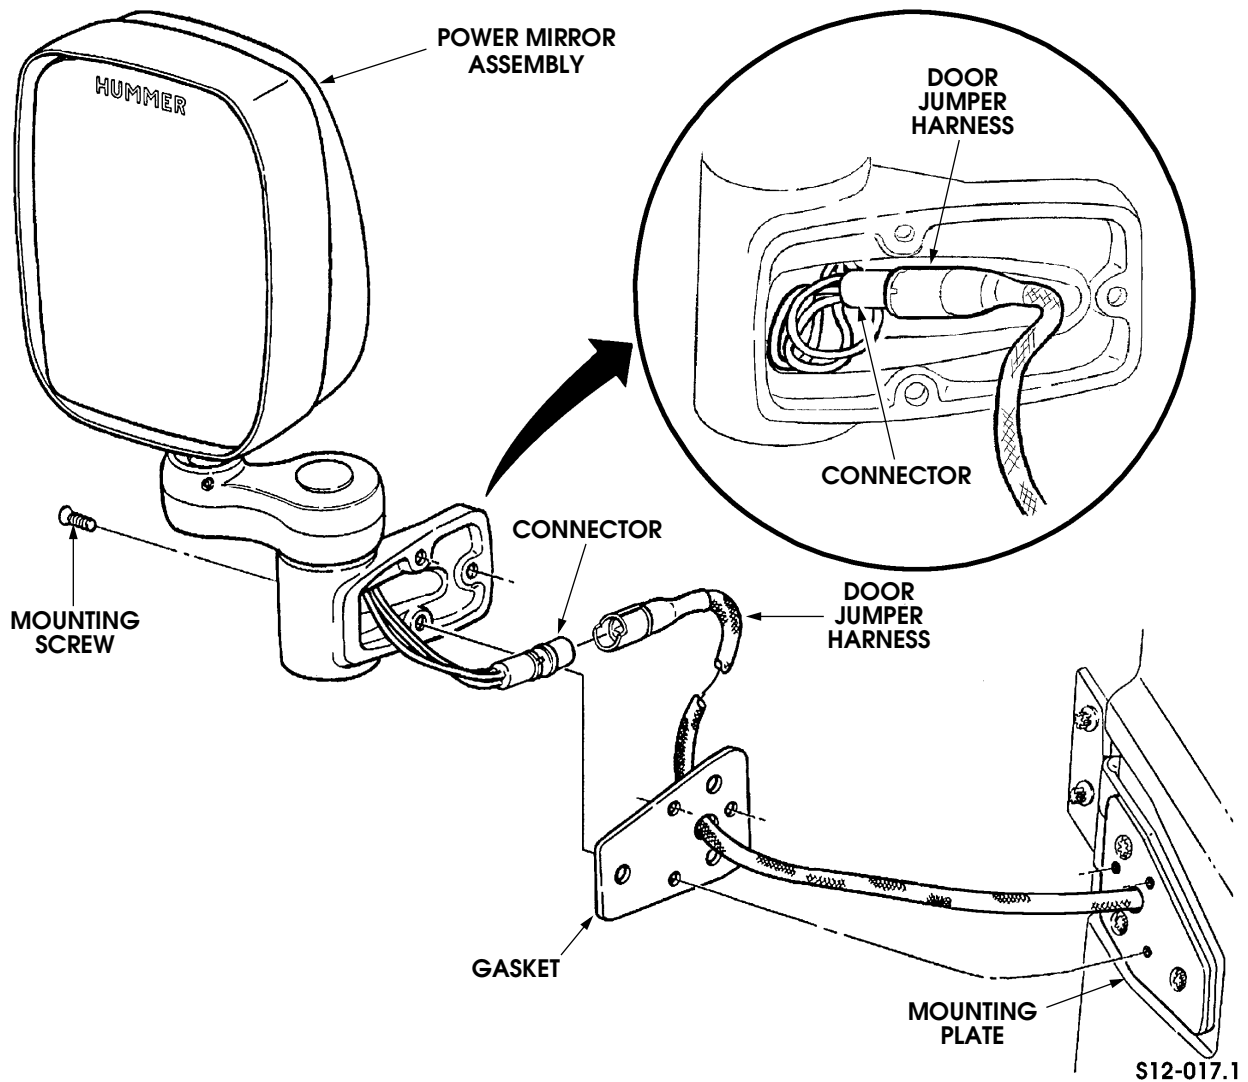

Figure 12-130.2 Power Mirror Assembly Removal
1. Remove the three mounting screws securing the power mirror assembly and gasket to mounting plate (Figure 12-130.2).
1. Connect the power mirror assembly connector to the door jumper harness (Figure 12-130.2).